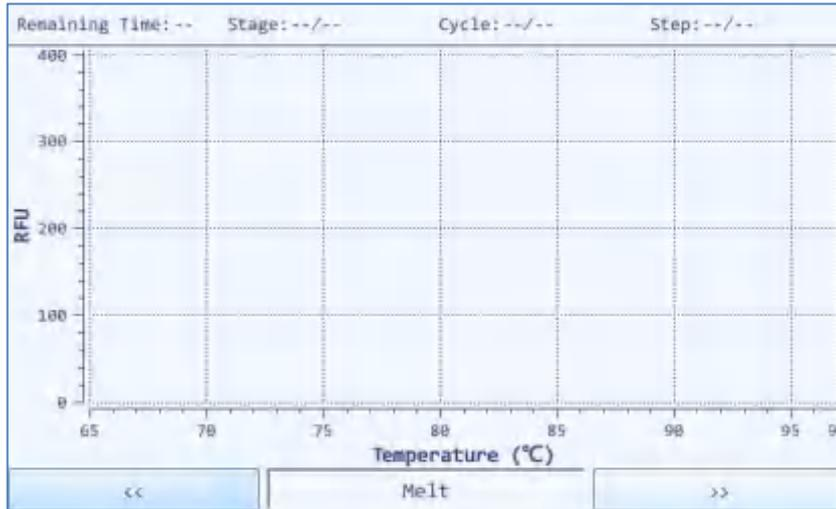

Figure E-5.2. Run Monitoring Diagram - Real-time Melting Curve
- b. User can press key below the run monitoring diagram to monitor the real-time **Melting** curve of the current experiment, as shown in figure E-5.2.